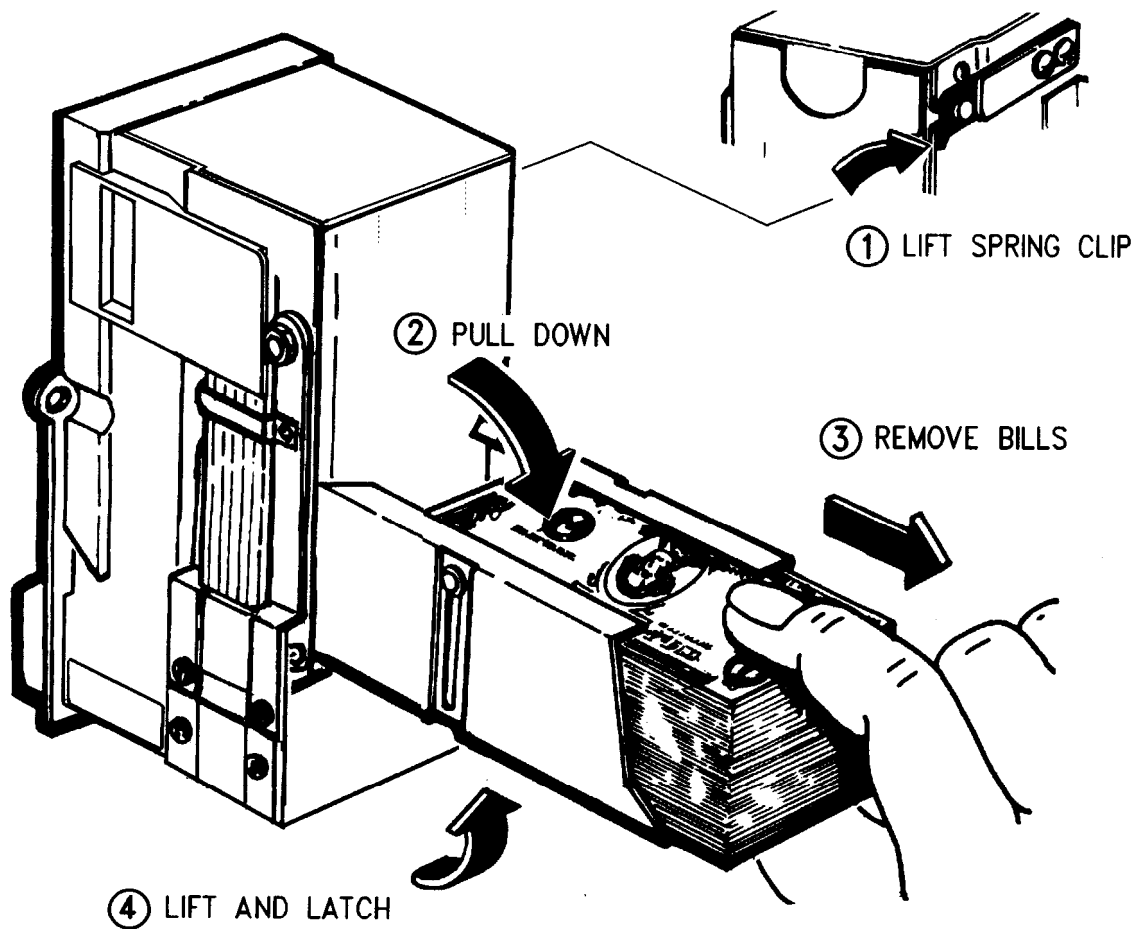
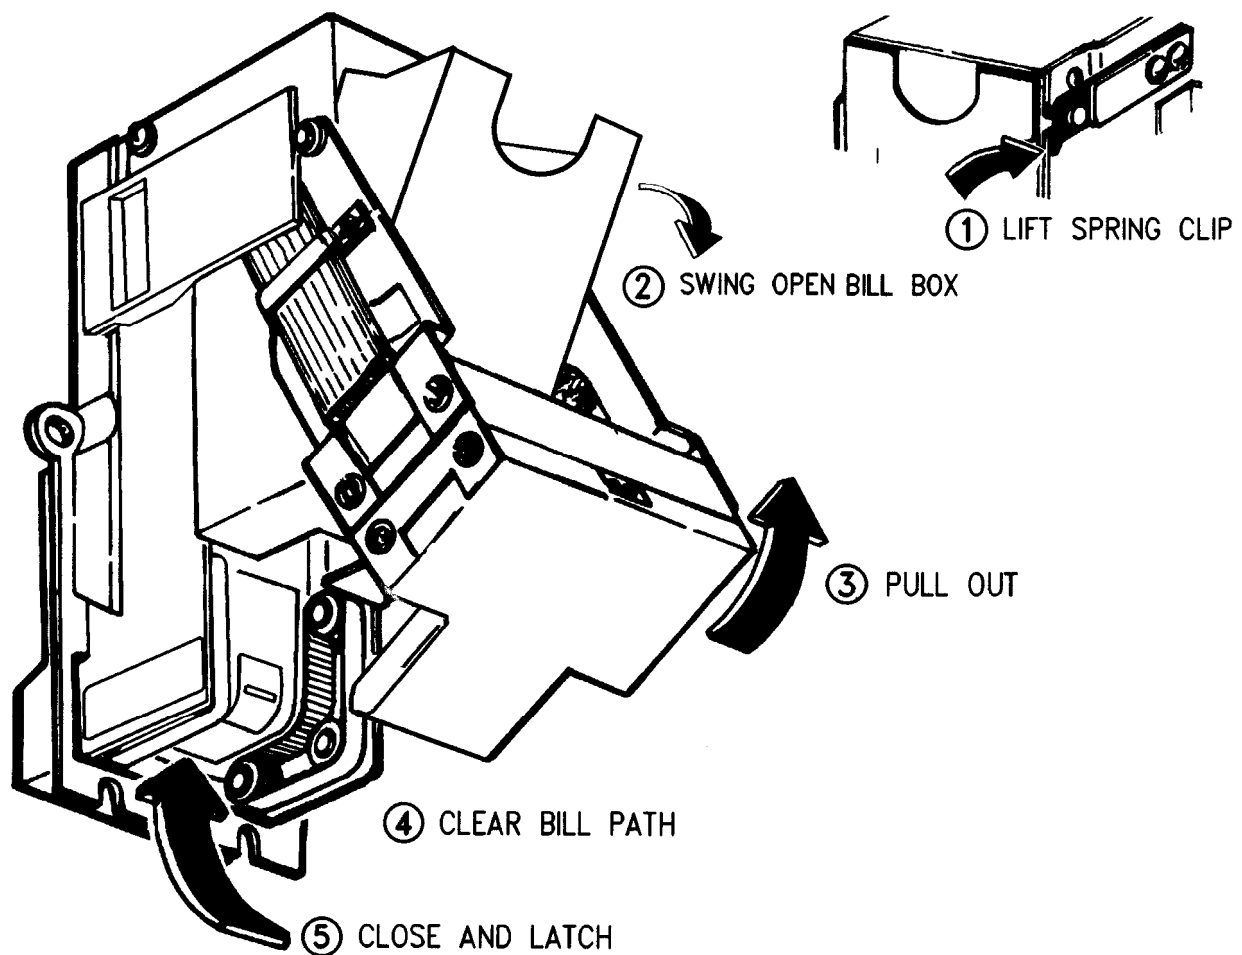

Figure 5-3. Removing Bills from Current USA Bill Box.
Figure 5-4. Clearing the USA Note Path.
Current USA	Single latch clip as shown in Figure 5-3, item 1. No separate bottom bail. Bill box must be opened before note path can be exposed.
Bills are collected into a built-in stacker and bill box in the USA acceptor. To remove bills, proceed as follows (refer to Figure 5-3):
Late USA acceptors (see Figures 5-3 and 5-4):
1. Release top spring clip (item 1).
2. Note the semi-circular cut-away area at the top of the bill box. Grasp the cut-away and pull the top of the bill box downward and outward (Figure 5-3, item 2).
3. Grasp the bottom rear of the USA and pull backward with an upward motion (Figure 5-4, item 2).
4. The bill path is now exposed (Figure 5-4, item 3). Clean or clear the acceptor as needed.
5. To close the acceptor, push the rear of the machine inward (Figure 5-4, item 4). Then lift the bill box until it locks in position (Figure 5-3, item 4).